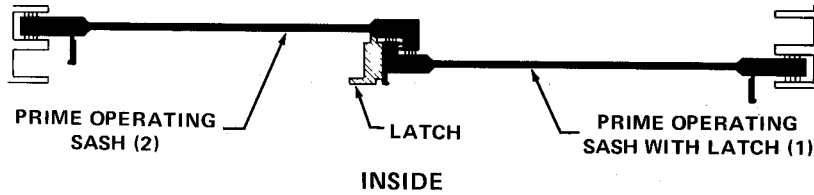

Figure 1 - Identification of Parts
1. Disengage latch on the prime operating sash with the latch (1, Figure 1)
2. Open the prime operating sash (1) fully.